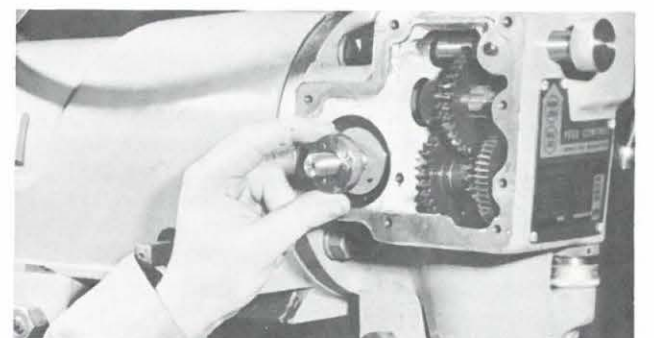
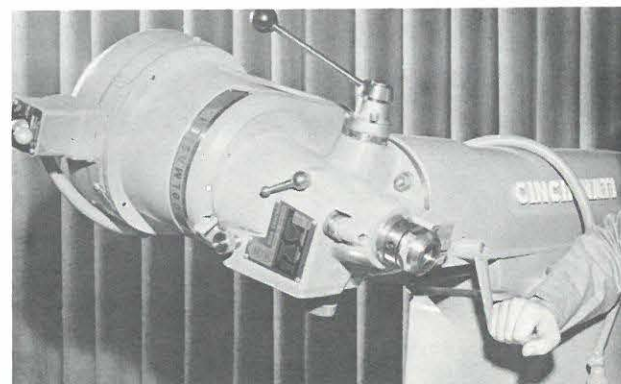

FIGURE 15C
FIGURE 16B
4. Drain oil from spindle housing by removing plug (124B) and rotating spindle housing (151B) to left. [See Figure 16B.] Unscrew hand clutch knob (175B, page 32) and remove cover plate (123B, page 30). Loosen lock screw (179B, page 32), unscrew clutch adjusting collar (178B) and remove male friction clutch (181B) [See Figure 15C], key (184B) and spiral gear (182B). Loosen clamp screw (205B).
1. Turn spindle housing 90° to left and remove plug (124B) to drain oil from housing. [See Figure 16B.] Return housing to upright position, unscrew hand clutch knob (175B, page 32) and remove cover plate (123B, page 30).
Loosen set screw (179B, page 32), tap collar to loosen shoe under screw, and remove clutch adjusting collar (178B). Slip off male friction clutch (181B), remove key (184B) and spiral gear (182B) from pinion shaft. [See Figure 15C.]